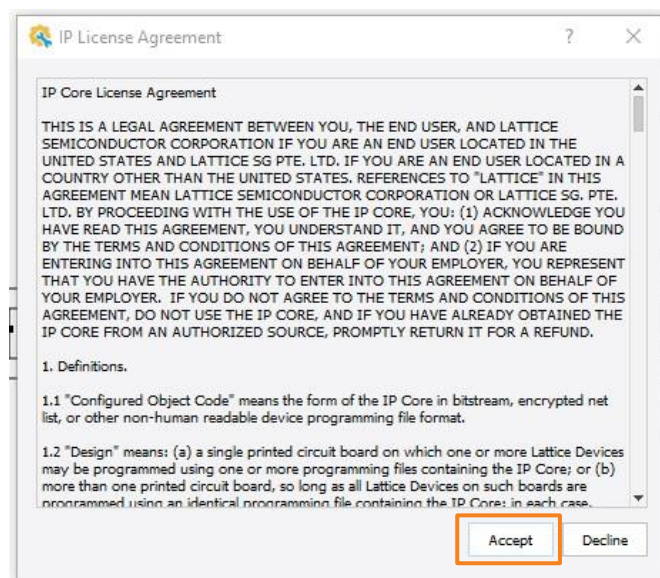

Figure 3.6. Propel Builder – I²C IP License
2. A license agreement will appear as shown in Figure 3.6. Click **Accept** to install the I²C Master IP.